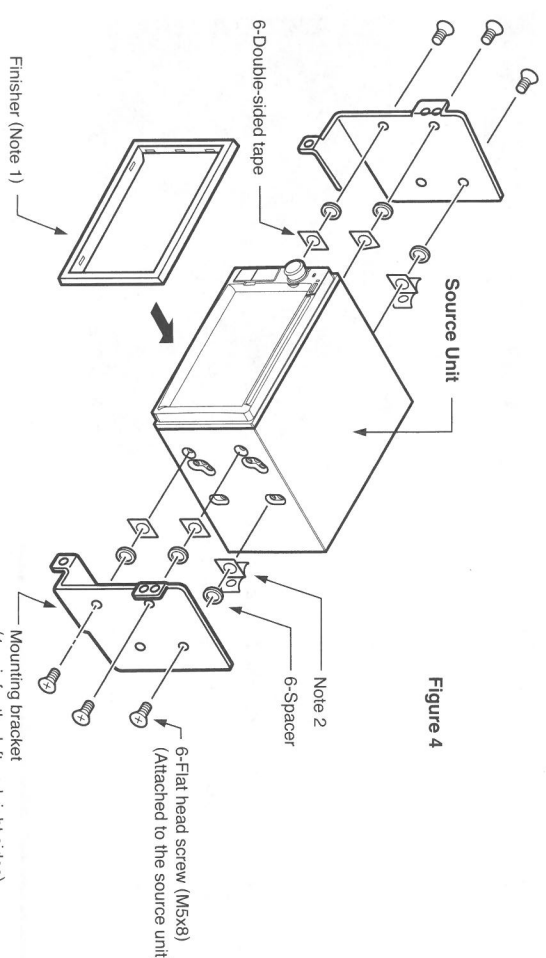

Figure 4
- When installing the source unit in NISSAN vehicles, use the parts attached to the unit and follow the instructions in Figure 4.
- When installing the source unit in TOYOTA vehicles (Figure 5), use the parts attached to the vehicle and follow the instructions in Figure 4.